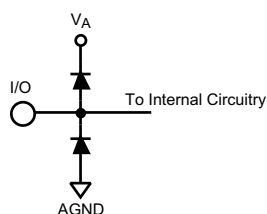

Figure 1.
- The inputs are protected as shown below. Input voltage magnitudes above  $V_A$  or below GND will not damage this device, provided current is limited per Note 4 in the Absolute Maximum Ratings table. However, errors in the A/D conversion can occur if the input goes above 2.6V or below GND as described in the Operating Ratings section, see Figure 1.
- (1) The inputs are protected as shown below. Input voltage magnitudes above  $V_A$  or below GND will not damage this device, provided current is limited per Note 4 in the Absolute Maximum Ratings table. However, errors in the A/D conversion can occur if the input goes above 2.6V or below GND as described in the Operating Ratings section, see Figure 1.
- (2) With a full scale differential input of  $2V_{P-P}$ , the 14-bit LSB is  $122.1\text{ }\mu\text{V}$ .
- (3) Typical figures are at  $T_A = 25^\circ\text{C}$  and represent most likely parametric norms at the time of product characterization. The typical specifications are not guaranteed.
- (4) This parameter is specified in units of dBFS - indicating the value that would be attained with a full-scale input signal.
- (2) With a full scale differential input of  $2V_{P-P}$ , the 14-bit LSB is 122.1  $\mu\text{V}$ .
- (4)  $I_{DR}$  is the current consumed by the switching of the output drivers and is primarily determined by load capacitance on the output pins, the supply voltage,  $V_{DR}$ , and the rate at which the outputs are switching (which is signal dependent).  $I_{DR} = V_{DR}(C_0 \times f_0 + C_1 \times f_1 + \dots + C_{13} \times f_{13})$  where  $V_{DR}$  is the output driver power supply voltage,  $C_n$  is total capacitance on the output pin, and  $f_n$  is the average frequency at which that pin is toggling.
- (1) The inputs are protected as shown below. Input voltage magnitudes above  $V_A$  or below GND will not damage this device, provided current is limited per Note 4 However, errors in the A/D conversion can occur if the input goes above 2.6V or below GND as described in the Operating Ratings section. Figure 1
- (2) With a full scale differential input of  $2V_{P-P}$ , the 14-bit LSB is  $122.1\ \mu\text{V}$ .